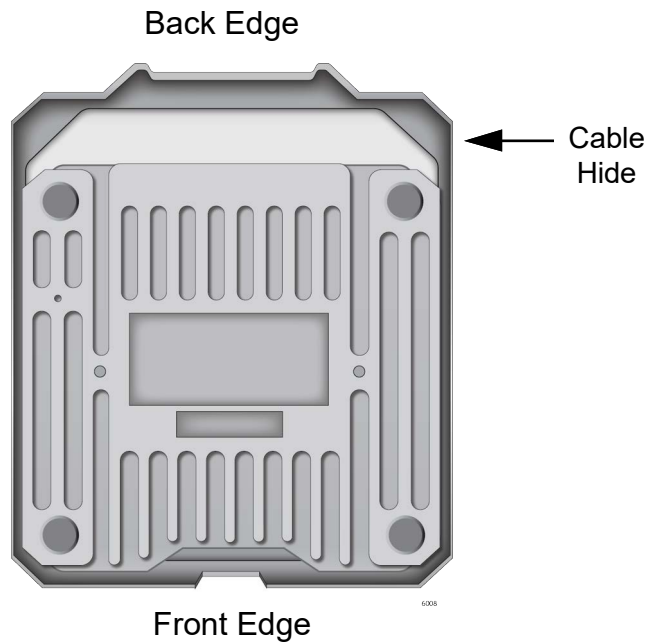

Figure 2. Access Point Bottom View
The bottom view is illustrated in Figure 2.
- Cable Hide** The top cover of the access point is larger than the access point chassis to create space on the back for cable connectors and cables shown in Figure 2 on page 12.